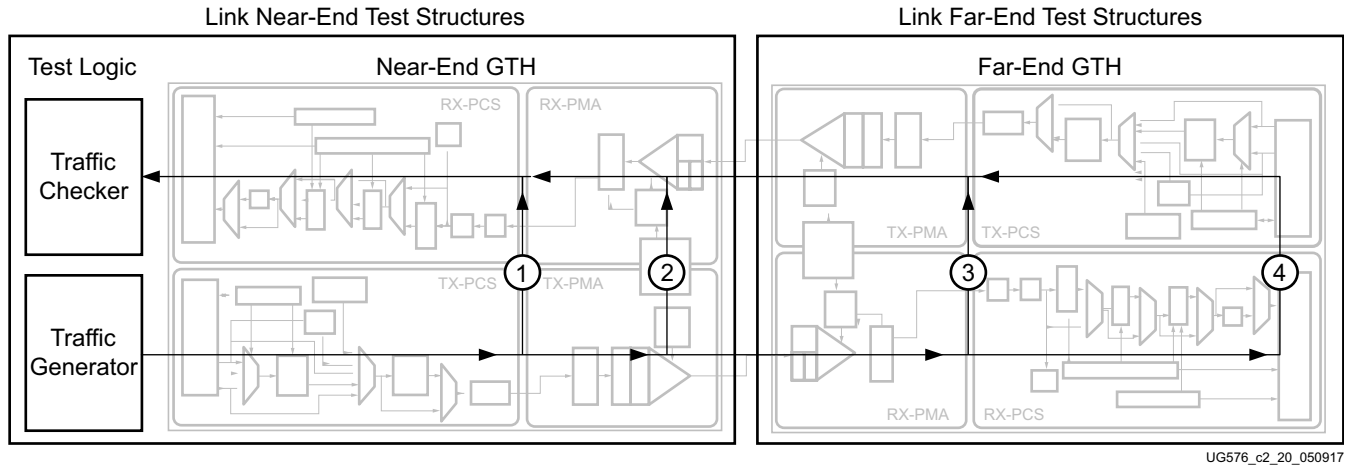

Figure 2-27: Loopback Testing Overview
Loopback modes are specialized configurations of the transceiver datapath where the traffic stream is folded back to the source. Typically, a specific traffic pattern is transmitted and then compared to check for errors. Figure 2-27 illustrates a loopback test configuration with four different loopback modes.
- Near-end PCS Loopback (path 1 in Figure 2-27)
- Near-end PMA Loopback (path 2 in Figure 2-27)
- Far-end PMA Loopback (path 3 in Figure 2-27)
- Far-end PCS Loopback (path 4 in Figure 2-27)